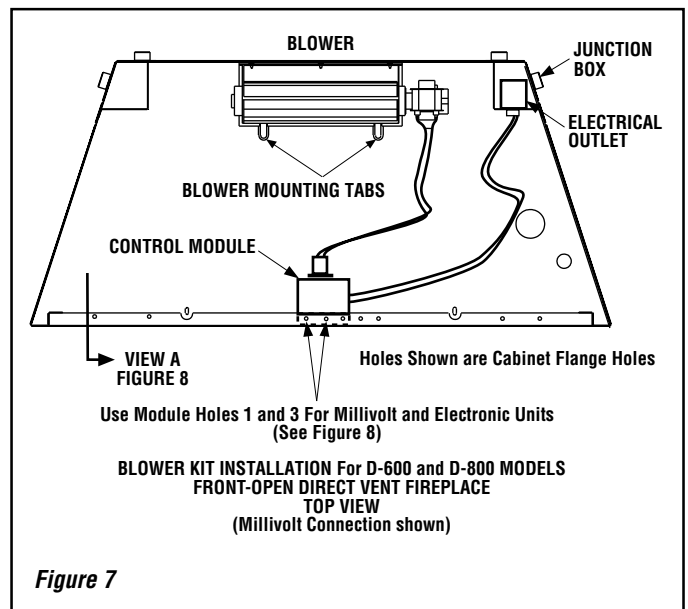

Figure 7
- f** - see **Figure 7** for D-600 and 800 series units;